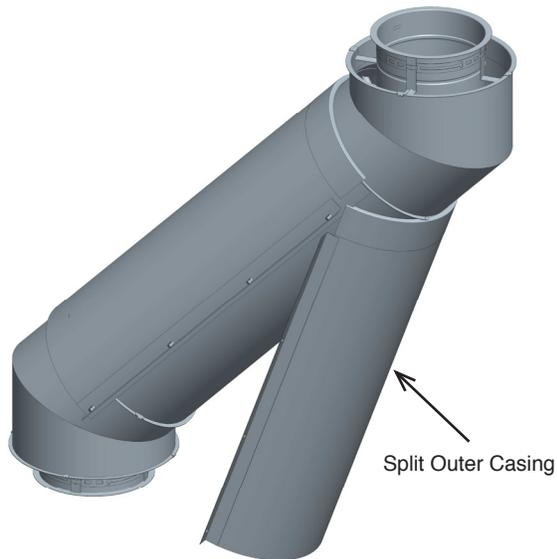

Figure 31 - Step 13 - Install of Split Outer Casing
13. Install the split outer casing that covers from the outer wall of the inlet end section to the outer wall of the outlet end section. See **Figure 31**.